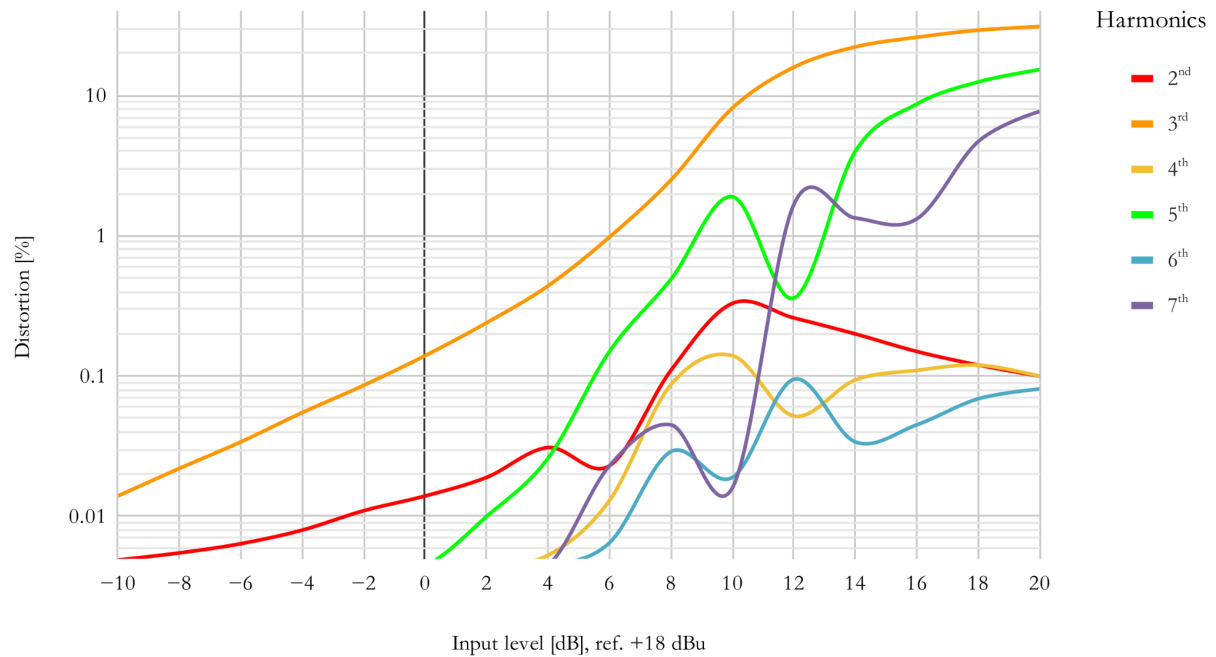

Figure 6. Symmetry 50%, 10 dB feedback.
- adding 10 dB of feedback (see Figure 6) increases linearity at moderate levels and makes clipping more acute, producing more higher harmonics.